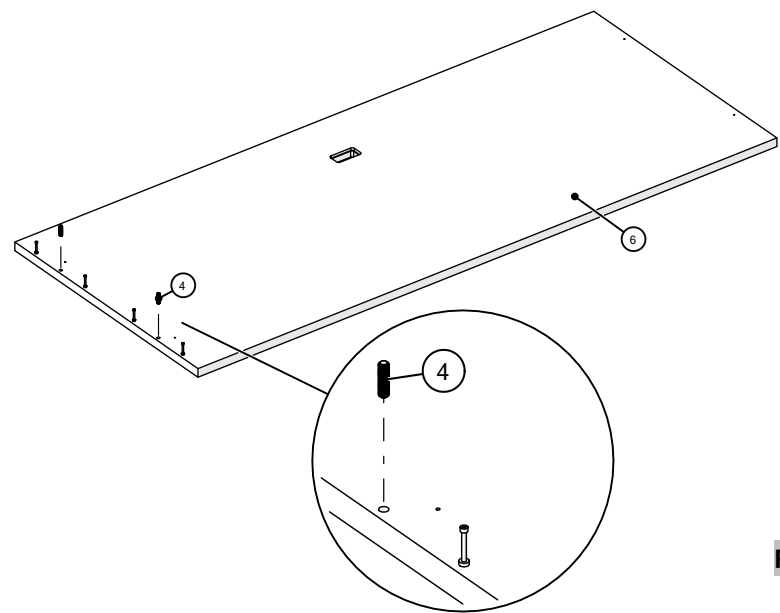

Figure 3
- 4. Insert the Drive-N-Lock Plastic Expansion Dowel into the holes of the surface using a rubber mallet, (Figure 3).